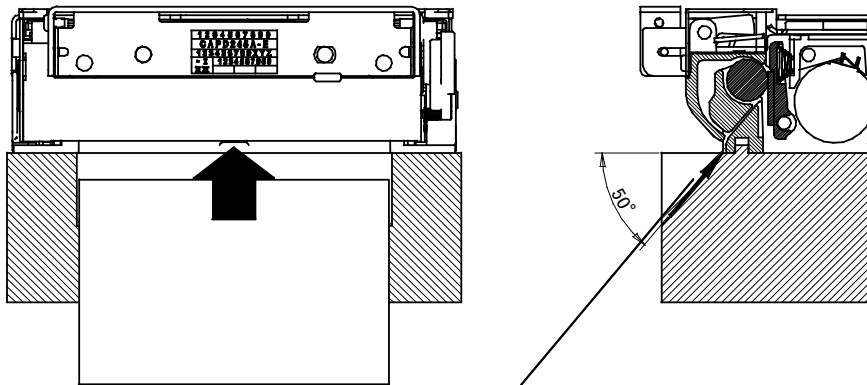

Figure 8-3 Installing the Thermal Paper by the Auto-loading
- Load the thermal paper from the paper inlet to run into the edge, shown in Figure 8-3.